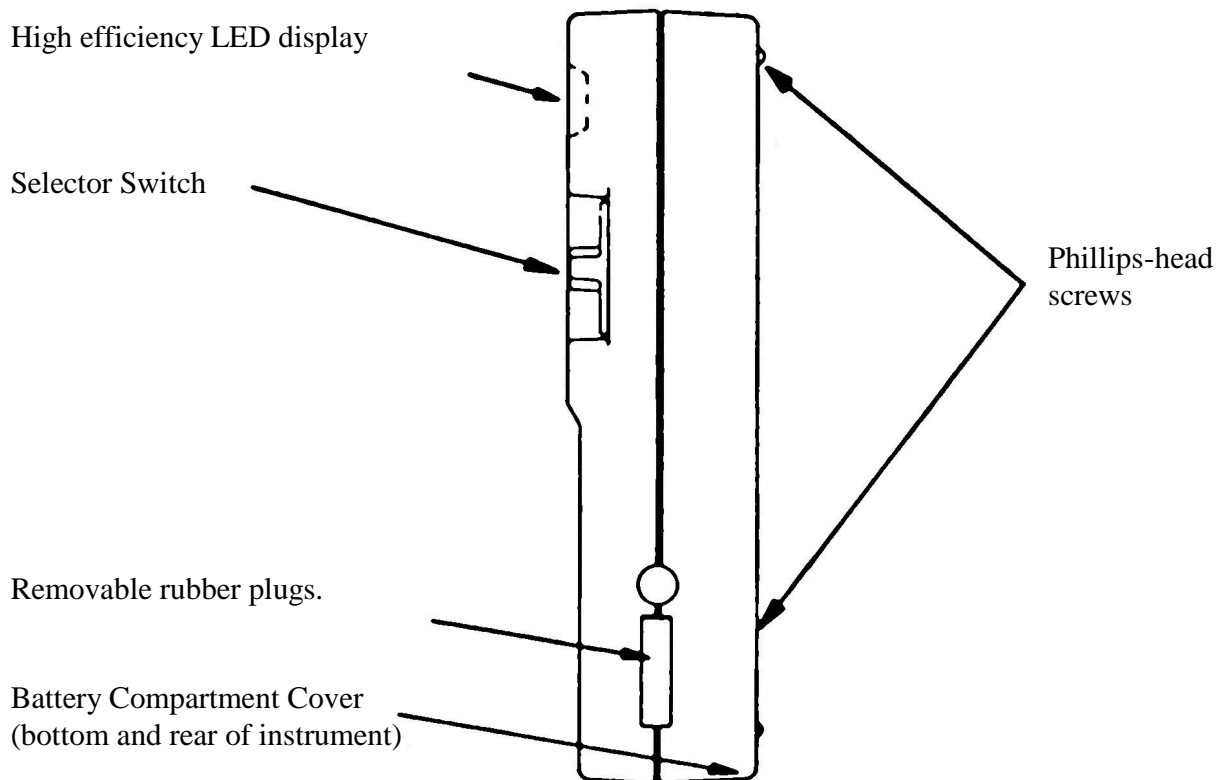

Fig. 6. Side View of Instrument.
1. Remove rubber plug (Fig. 6) to access the calibration switch and potentiometer (Fig. 5). The standard configuration (*) of the calibration switch is shown at right.
1. Remove rubber plug (Fig. 6) to access the calibration switch and potentiometer (Fig. 5). The standard configuration of the calibration switch is shown at right.
1. Remove rubber plug (Fig. 6) to access the calibration switch and potentiometer (Fig. 5). The standard configuration of the calibration switch is
1. Place the selector switch to OFF and remove the battery compartment cover, the four AA batteries, the two rubber plugs on the side of the case, and the two Phillips-head screws from the back of the case (see Fig. 6).
1. Make sure the selector switch is in the OFF position, then remove the battery compartment cover and the four AA batteries. Remove also the two rubber plugs on the side of the case (see Fig. 6). Remove the two screws from the back of the case and lift the top cover exposing the main circuit board. Unscrew the plastic cable clamp near the 6-pin connector and leave it on the cable.
1. Make sure the selector switch is in the OFF position, then remove the battery compartment cover and the four AA batteries. Remove the two rubber plugs on the side of the case (see Fig. 6). Remove the two Phillips screws from the back of the case and lift the top cover exposing the main circuit board. Unscrew the plastic cable clamp near the 6-pin connector and leave it on the cable.